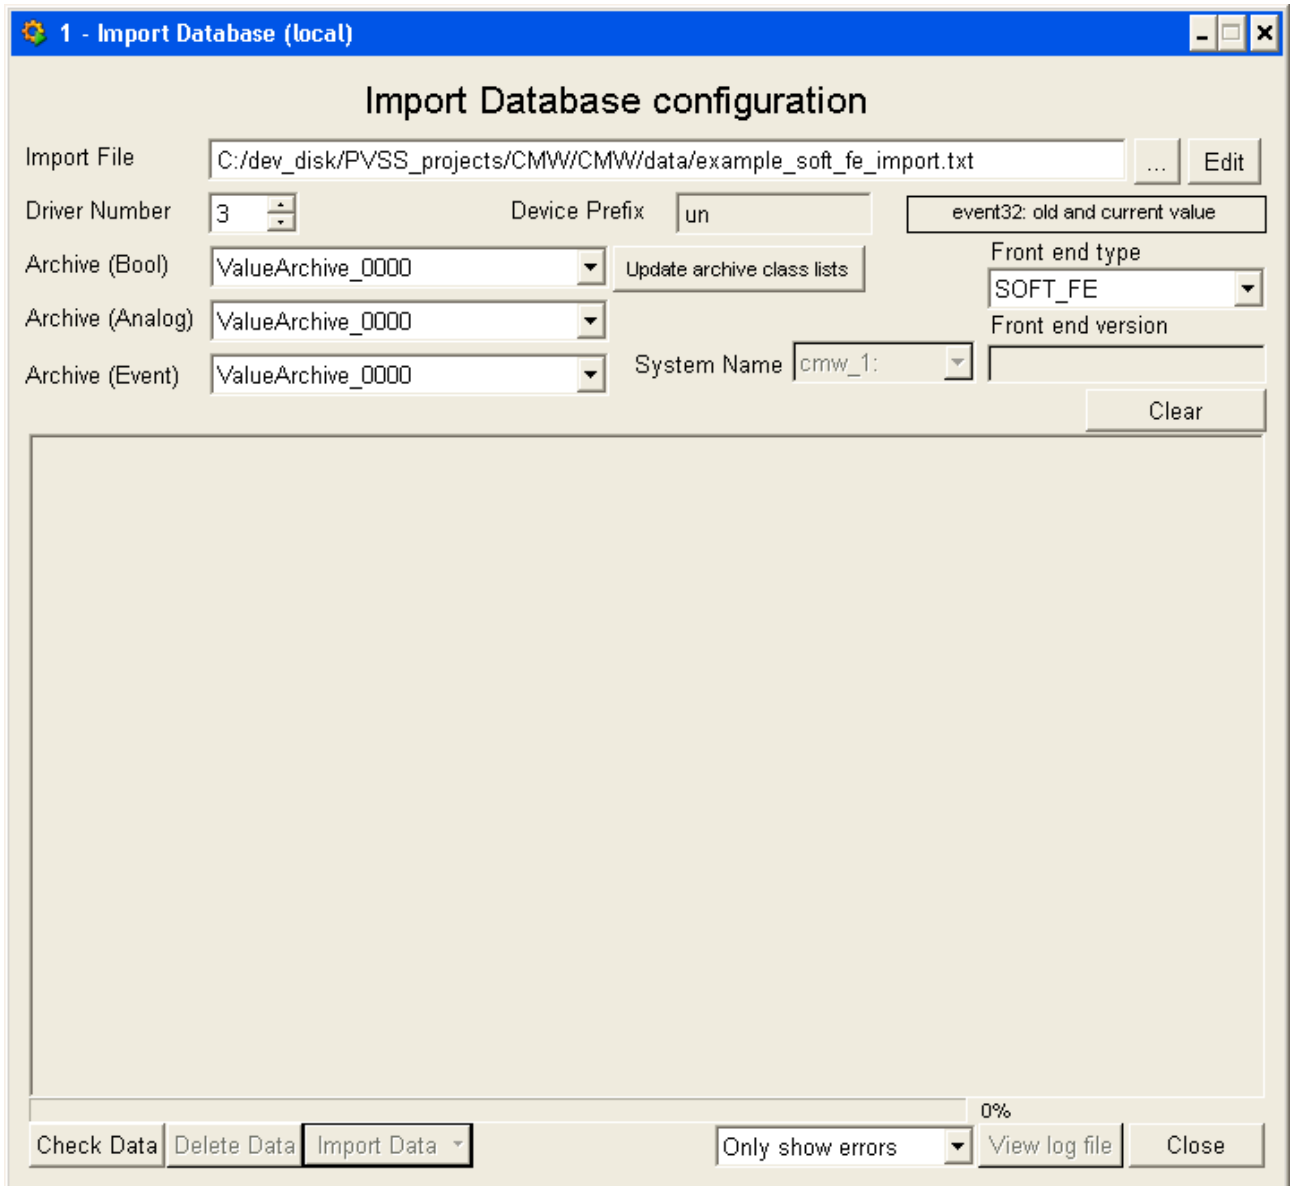

Figure 10: import the SOFT\_FE front-end and devices.
- start the PVSS00sim –num 3 and import the file 'example\_soft\_fe\_import.txt' with driver 3 and 'SOFT\_FE' as front-end type (Figure 10)